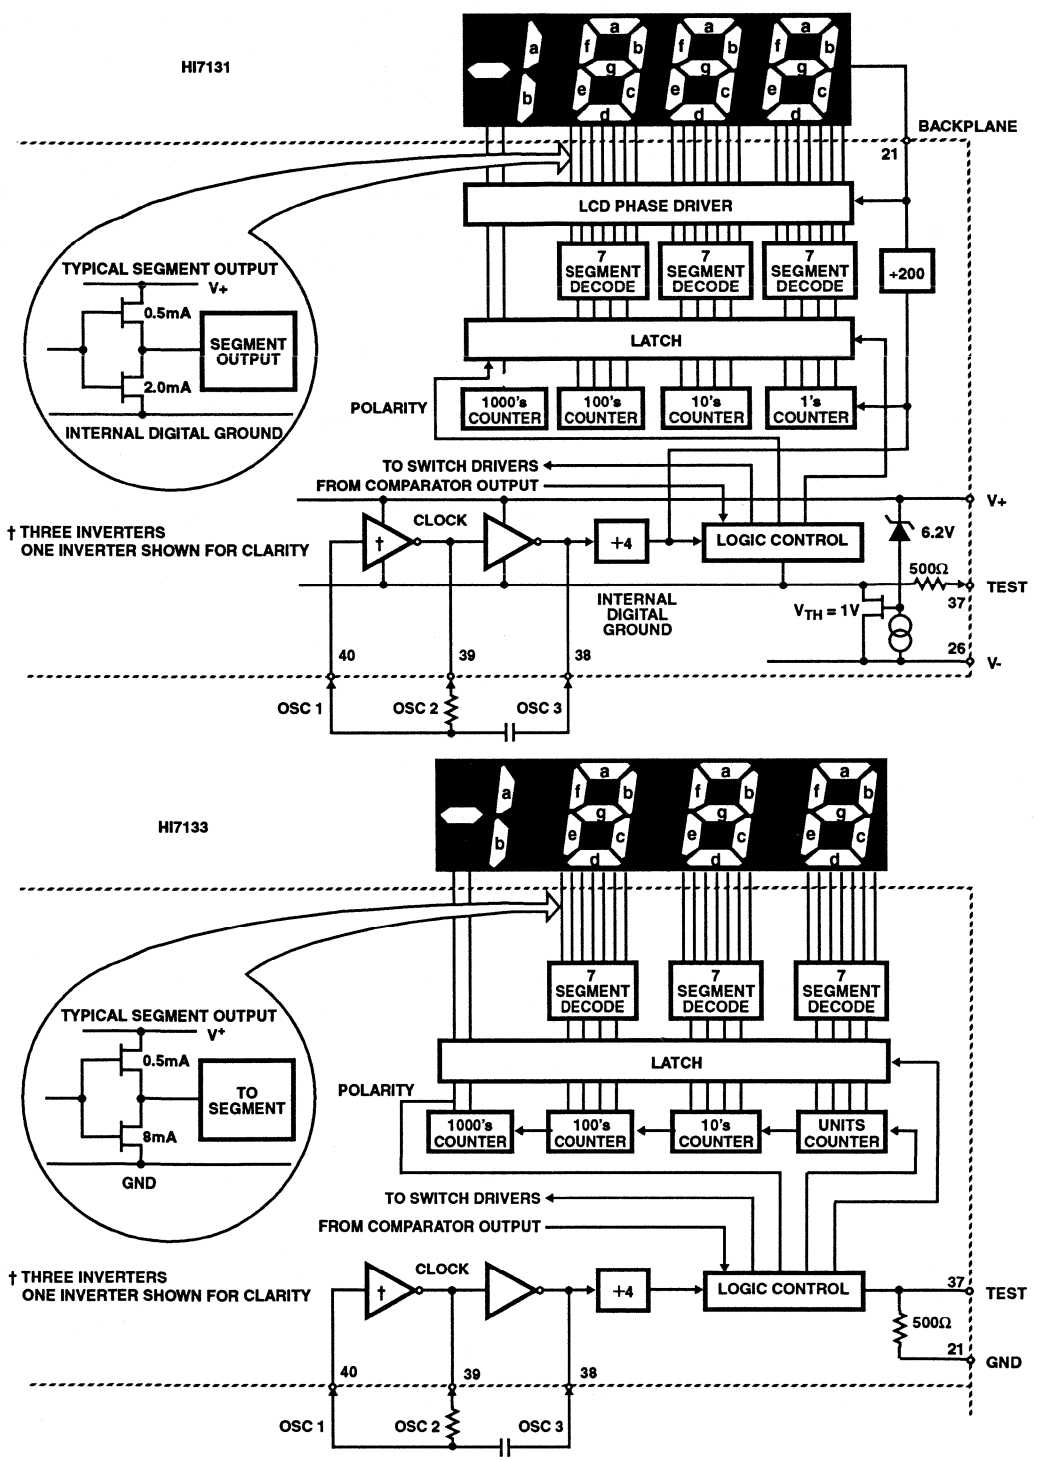

FIGURE 6. DIGITAL SECTION
Figure 6 shows the block diagram of the digital section of the HI7131. The diagram shows the clock generator, control logic, counters, latches and display decoder drivers. An internal digital ground is generated from a 6V Zener diode and a large P channel source follower. This supply is capable of absorbing the relatively large capacitive currents when the LCD backplane (BP) and segment drivers are switched.
The HI7131 is a direct display drive (versus multiplexed) and each segment in each digit has its own segment driver. The display font and the segment assignment on the display are also shown in Figure 6.
Figure 6 shows the block diagram of the digital section of the HI7133. The diagram shows the clock generator, control logic, counters, latches and display decoder drivers. The supply rails of the digital circuitry are V+ and GND.